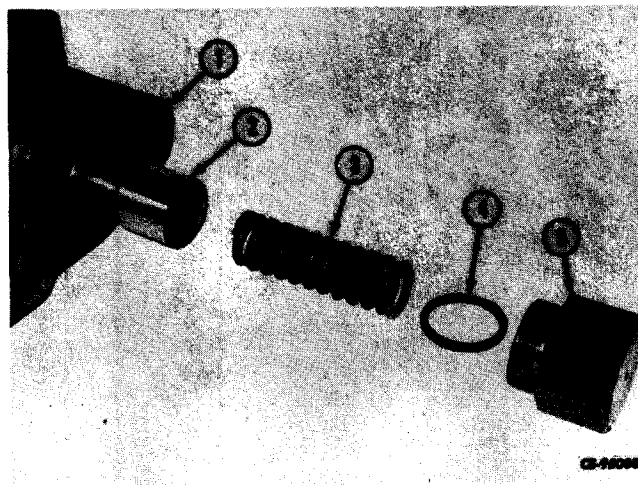

Figure 11-43
Remove cap (5, Fig. 11-43) and spring (3). Remove "O" ring (4) from cap. Slide check plunger assembly (2) from valve (1).
Lubricate spool assembly (2, Fig. 11-43) with hydraulic fluid and slide into bore of valve (1). Install spring (3) in spool. Lubricate a new "O" ring (4) and install on cap (5). Install and tighten securely.